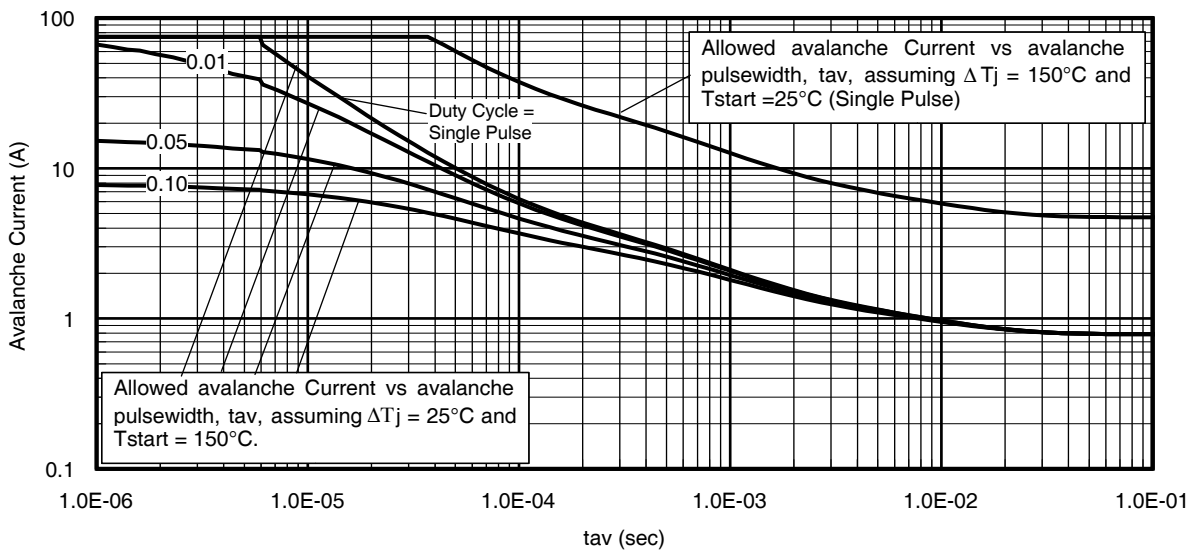

Fig 14. Typical Avalanche Current vs. Pulsewidth
- ΔT = Allowable rise in junction temperature, not to exceed T_{jmax} (assumed as 25°C in Figure 14, 15).